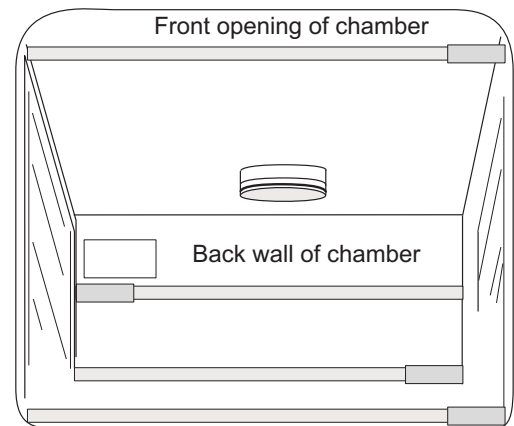

Figure 1-16. Four Rods Installed in Chamber
10. Figure 1-16 shows the four rods installed.